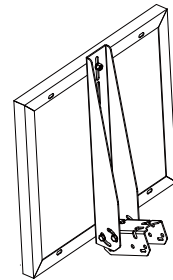

figure 1
Step1. Assemble the tilt arm (Part 1-1) and place against the center frame of the PV module. Align the holes from top to bottom as shown in figure 1. You may need to lubricate all nuts and bolts to facilitate an easy removal at a later date.